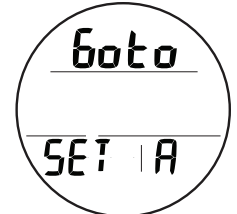

Fig. 49 - SET A LEAD-IN
**Set A Lead-in**, information includes (Fig. 49):